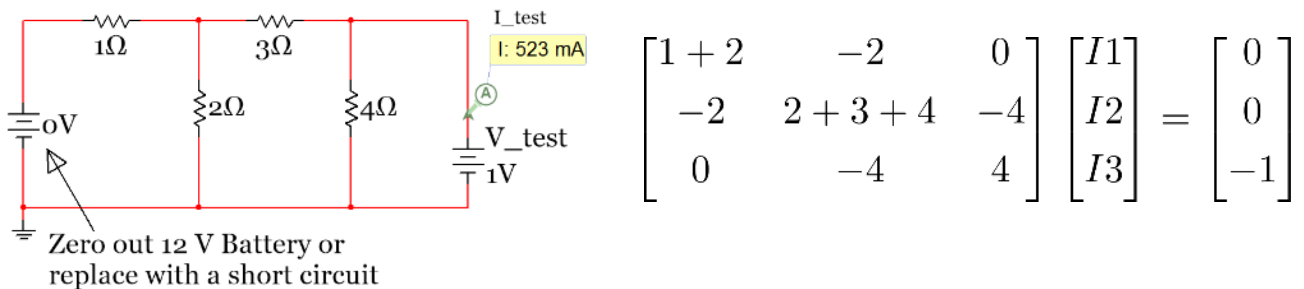

Figure 2.63: Sub-Problem 2 - I_{Test} Calculation – Used in Method 3 to determine $R_{th} = V_{Test}/I_{Test}$
- Using the Mesh Matrix in Figure 2.63 I_{Test} is calculated to be 523 mA. **$R_{th} = 1V/.523A = 1.913 \text{ } \Omega$**